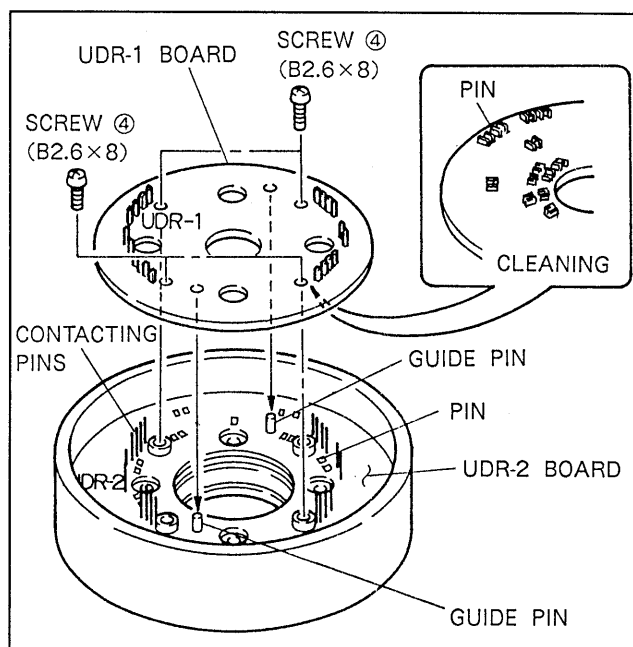

Fig. 6-1-10. Installation of the UDR-1 Board
18. Clean the connector pins on the UDR-1 and UDR-2 boards shown in Fig. 6-1-10 with dry cleaning cloth. Check that no foreign material is attached on the connector pins.